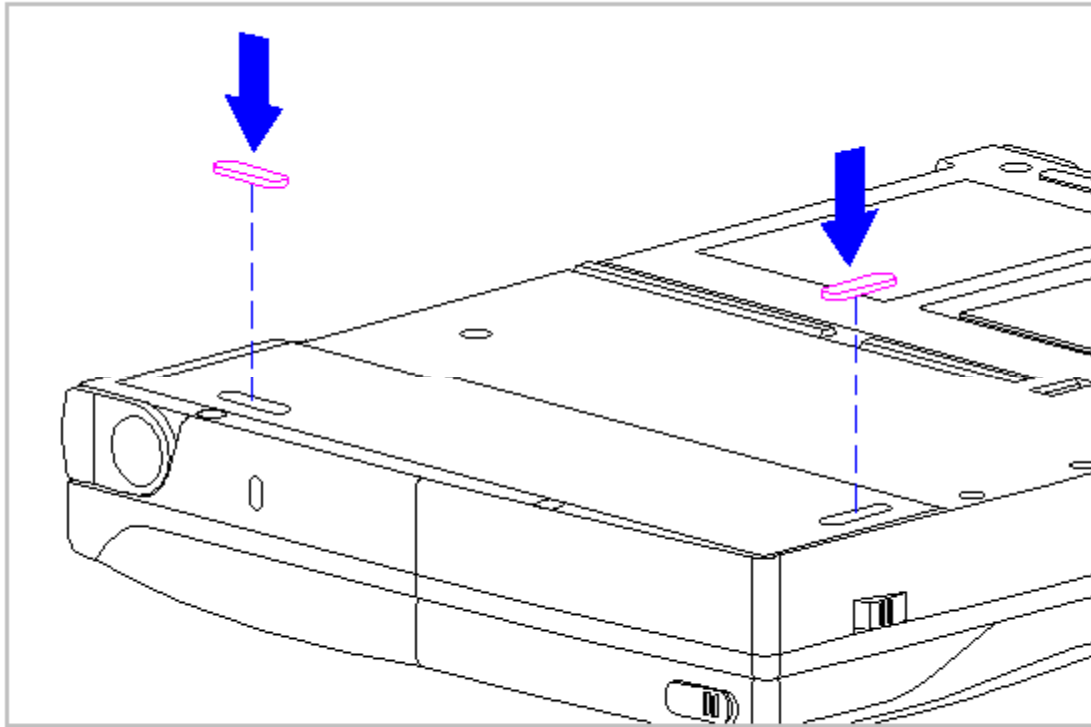

Figure 5-26. Attaching Anti-Skid Pads on the Battery Compartment
2. With the adhesive-side down, place the anti-skid pad into the raised oval outline on the battery compartment (Figure 5-26).